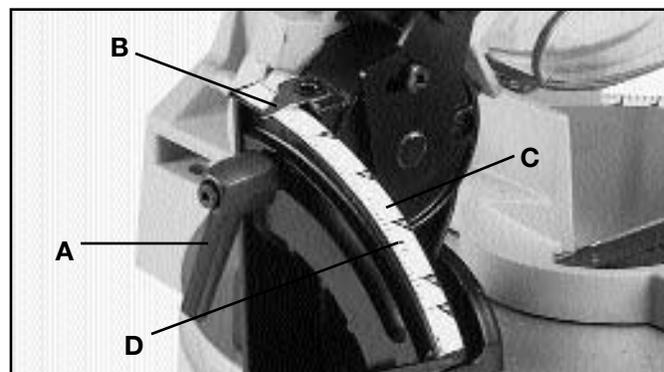

Fig. 15
Loosen bevel cutting lock handle (A) Fig. 15, tilt cutting arm to the desired bevel angle and tighten lock handle (A). **NOTE:** Lock handle (A) is spring-loaded and can be re-positioned by pulling out on the handle and repositioning it on the serrated stud located underneath the handle.
**⚠ WARNING: LOCK HANDLE (A) MUST BE TIGHTENED DURING ALL CUTTING OPERATIONS.**
The bevel angle of the cutting arm is determined by the position of the pointer (B) Fig. 15, on the large scale (C). A triangle indicator (D) is provided to rapidly position the cutting arm at the 33-7/8 degree left bevel angle which is used for cutting crown moulding, as explained later in this manual.